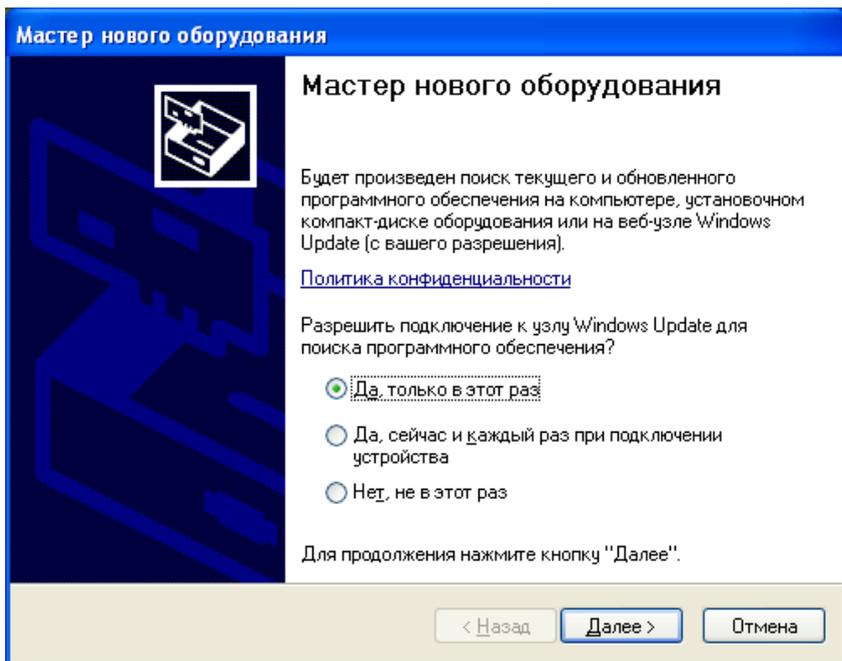

Figure 2
3) If this is your first connection to a computer, install the USB driver. In the "New Hardware Wizard" window check "Yes, only this time" as shown in Figure 2, click "Next".